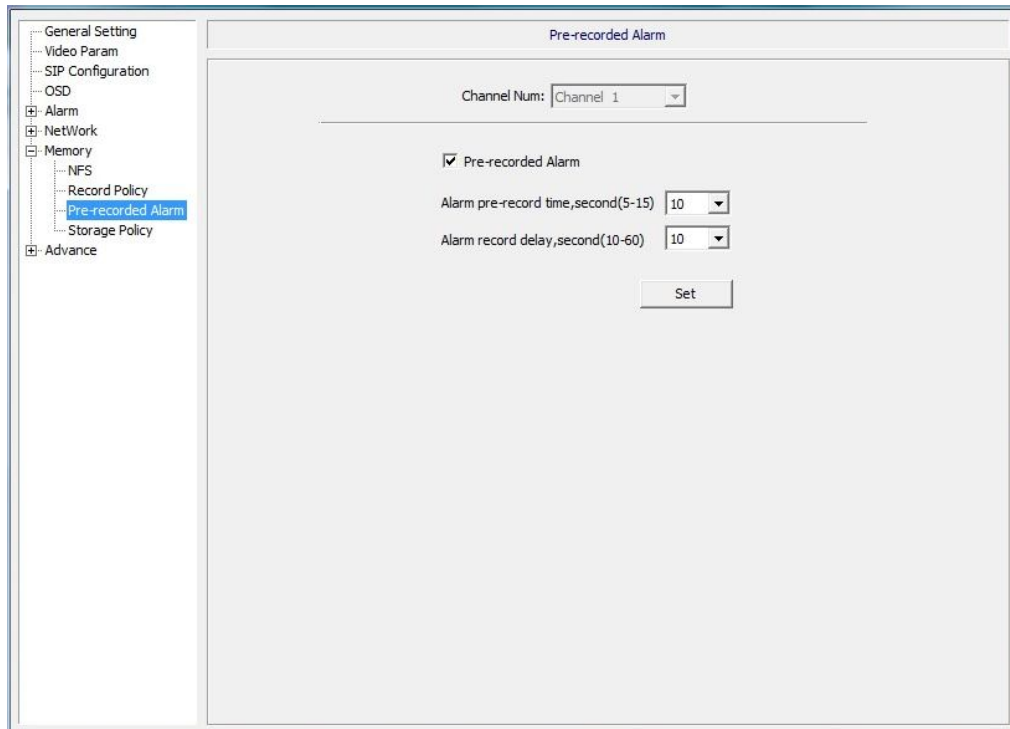

Fig. 1.27
**Pre-Recorded Alarm (Figure 1.27)**